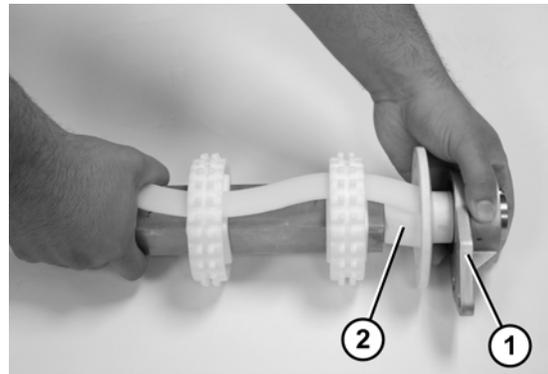

Figure 54
9. Slide the 3 hole flange with bearing (**Figure 54, item 1**) and flanged puck (**Figure 54, item 2**) off the drive spindle.